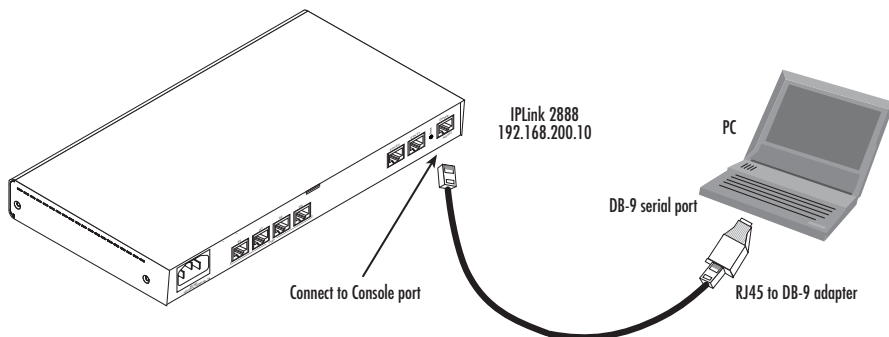

Figure 4. Connecting to the PC's Console port
1. To access the IPLink configuration via the console port, connect the DB9-RJ45 adapter to the DB-9 serial port on the PC or dumb terminal. Use the RJ45 straight-through cable between the adapter and the console port on the 2888. (see Figure 4).